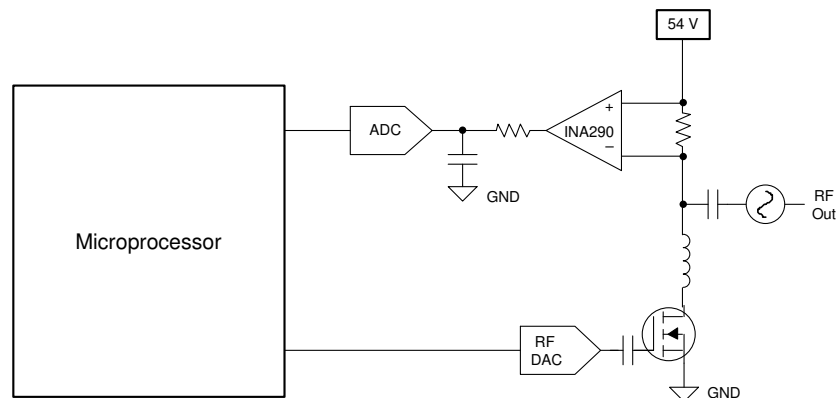

Figure 39. Current Sensing in a PA Application
The INA290 is a unidirectional, current-sense amplifier capable of measuring currents through a resistive shunt with shunt common-mode voltages from 2.7 V to 120 V. The circuit configuration for monitoring current in a high-side radio frequency (RF) power amplifier (PA) application is shown in Figure 39.